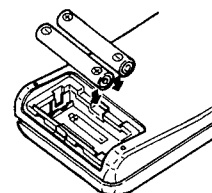

Fig. 10
2. Install batteries (AAA R03 UM-4) as shown in Fig. 10. Be sure batteries are installed with correct polarity, (+), and (-).